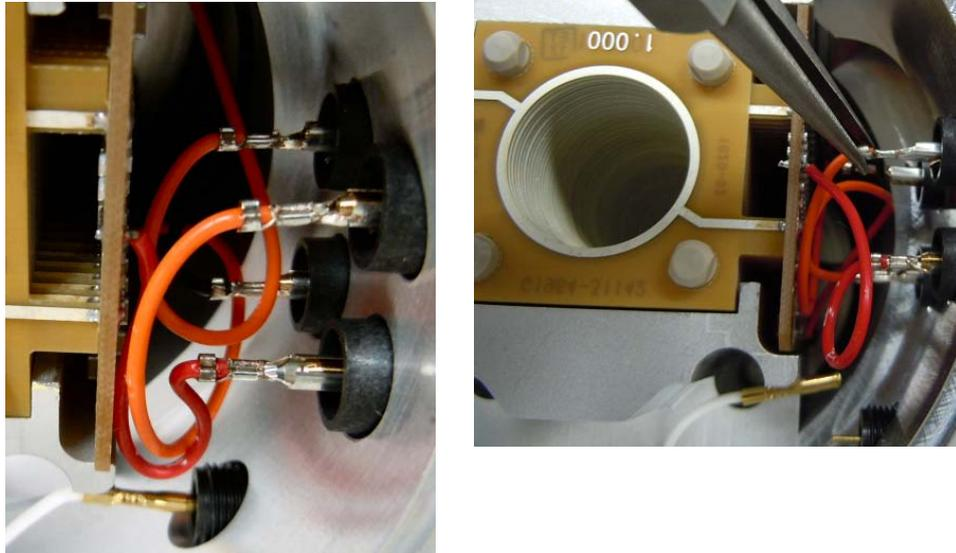

Figure 70 Five internal wires from the feed-through.
- 4 Disconnect the five internal wires from the feed-throughs. Use needle nose pliers. See Figure 70.